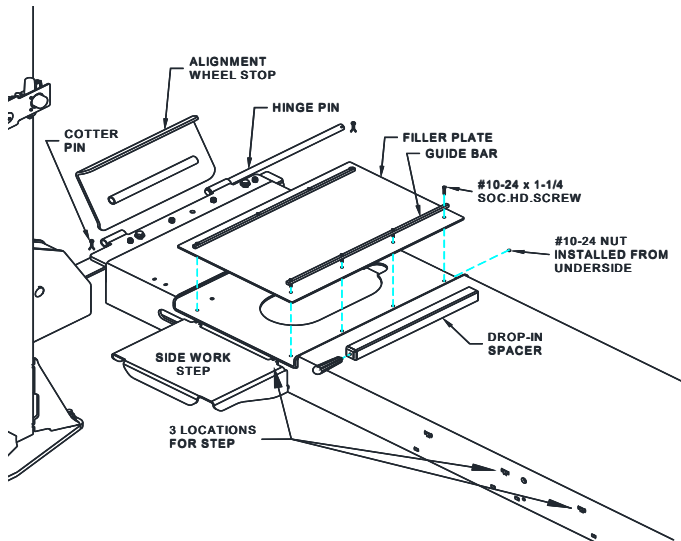

Fig 27 – Alignment Wheel Stop & Turn Plate Installation
64) If lift is an alignment lift, use the hinge pin and cotter pins to install the wheel stop. See **Fig 27**
- 79) Referring to **Fig 27**, locate the filler plate, guide bars, and #10-24 hardware in the accessory box and attach them to the turnplate pockets as shown.
- 80) Use the hinge pin and cotter pins to install the alignment wheel stop. See **Fig 27**.
- 81) Attach a Work Step to each runway. (The Work Step may be located in three different positions on each runway.) See **Fig 27**.